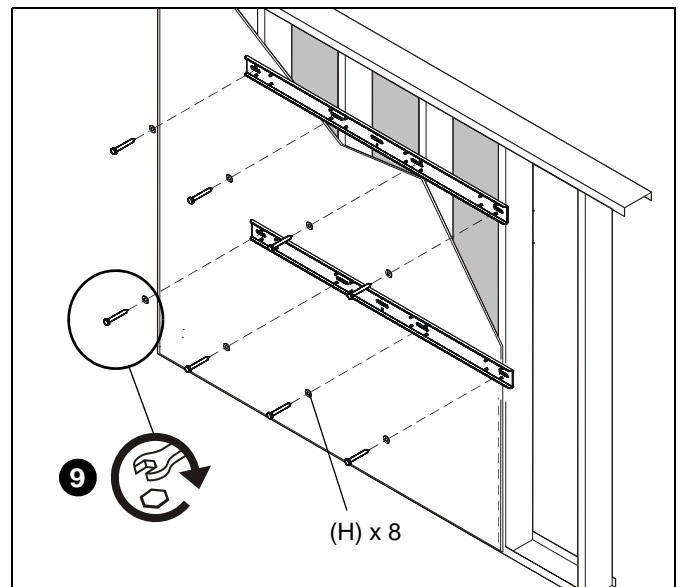

Figure 3
9. Secure mount to studs using appropriate hardware for mounting surface and eight 3/8" washers (H). (See Figure 3)